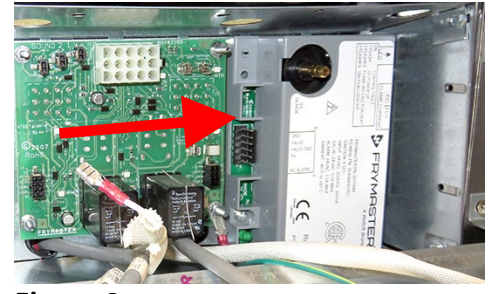

Figure 8
11. Insert the new right module as shown (see Figure 8).